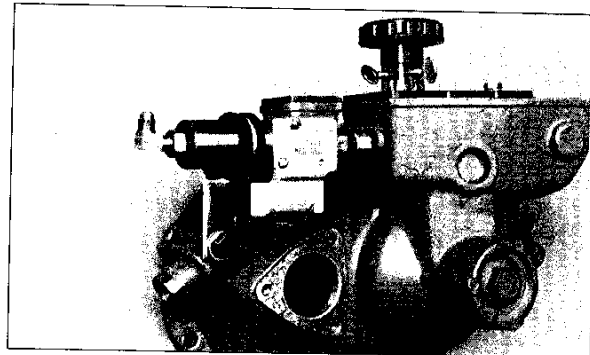

FIG. 1.6.13
2. Adjust the switch bracket clamp to line up with the Detroit Diesel housing-to-blower bolt (Fig. 1.6.13).